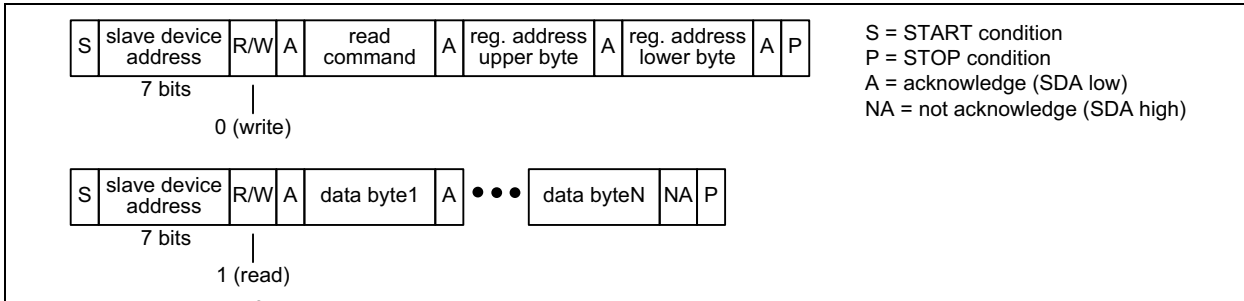
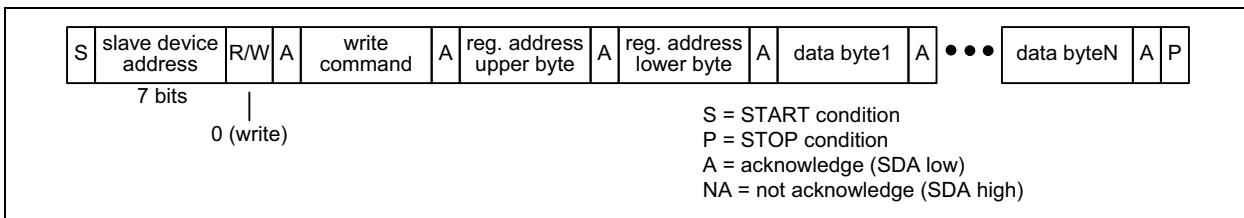

FIGURE 2-4: I²C Read Transaction Functional Timing.
FIGURE 2-5: I²C Write Transaction Functional Timing.
Read Transactions. The bus master first does an I²C write to the device. In this transaction three bytes are written: the SPI Read command (see Table 2-4), the upper byte of the register address, and the lower byte of the register address. The bus master then does an I²C read. During each acknowledge (A) bit the device fetches data from the read address and then increments the read address. The device then transmits the data to the bus master during the next 8 SCL cycles. The bus master terminates the read with a not-acknowledge (NA) followed by a STOP condition (P). See Figure 2-4. After the I²C write there can be unlimited idle time on the bus before the I²C read, but the device cannot tolerate other I²C bus traffic between the I²C write and the I²C read. Care must be taken to ensure that the I²C read is the first command on the bus after the I²C write to ensure the two-part read transaction happens correctly.
Write Transactions. The bus master does an I²C write to the device. The first three bytes of this transaction are the SPI Write command (see Table 2-4), the upper byte of the register address, and the lower byte of the register address. Subsequent bytes are data bytes to be written. After each data byte is received, the device writes the byte to the write address and then increments the write address. The bus master terminates the write with a STOP condition (P). See Figure 2-5.
Note: In Figure 2-4 and Figure 2-5, a STOP condition (P) immediately followed by a START condition (S) can be replaced by a repeated START condition (Sr) as described in the I²C specification.